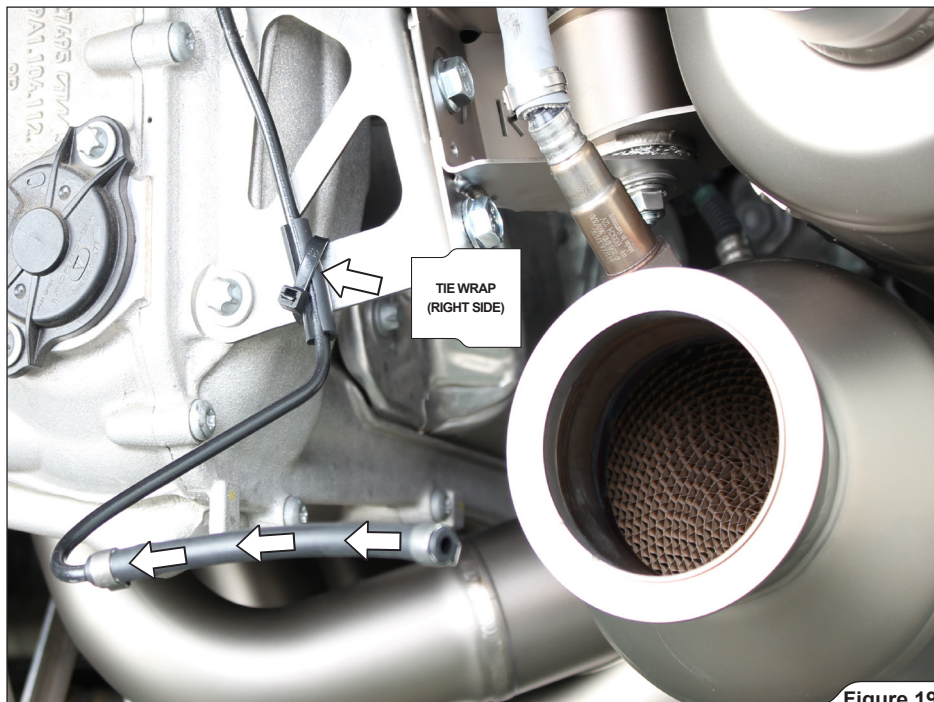

Figure 19
- Secure the vacuum pipes using notched rubber tubes and plastic tie wraps from Akrapović installation kit, on both sides of the vehicle, as shown (Figure 19, 20).